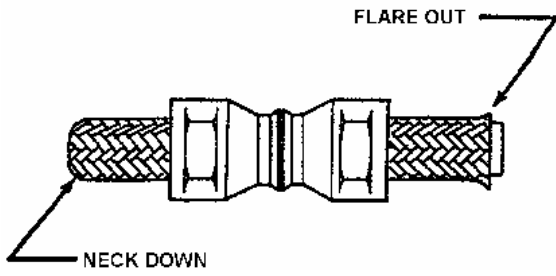

Figure 1. Socket Assembly
- Insert neck-down end of hose into socket, using a twisting, pushing motion until hose is through the sockets (Figure 1). Remove assembly from vise.
g. Insert neck-down end of hose into socket, using a twisting, pushing motion until hose is through the sockets (Figure 1). Remove assembly from vise.